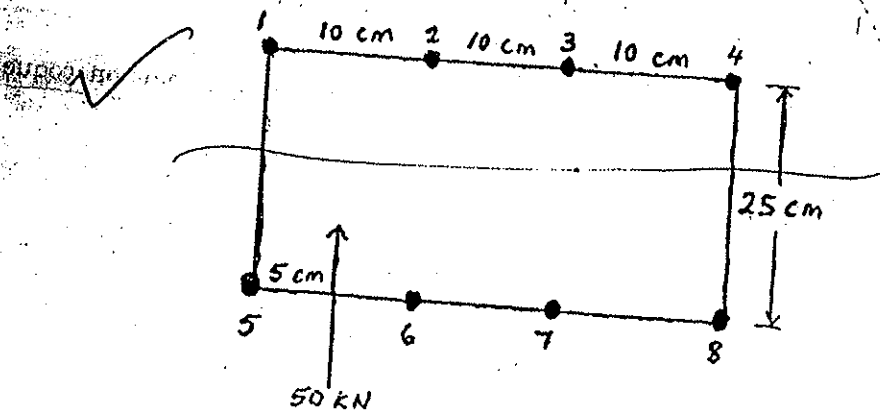

Fig. 6
14. (a) Obtain the shear flow for the box beam shown in Fig. 6. $A_1 = A_5 = 25 \text{ cm}^2$, $A_2 = A_3 = A_6 = A_7 = 7 \text{ cm}^2$ and $A_4 = A_8 = 12 \text{ cm}^2$.